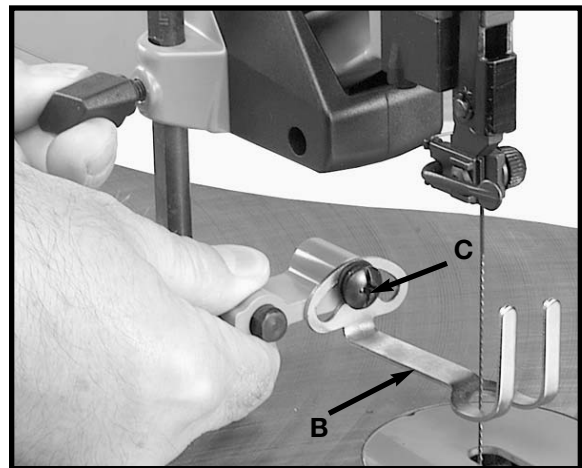

Fig. 20
When bevel cutting, the holddown (B) Fig. 20, can be adjusted to lay flat on the stock by loosening screw (C) and tilting the holddown (B) accordingly. Then tighten screw (C).